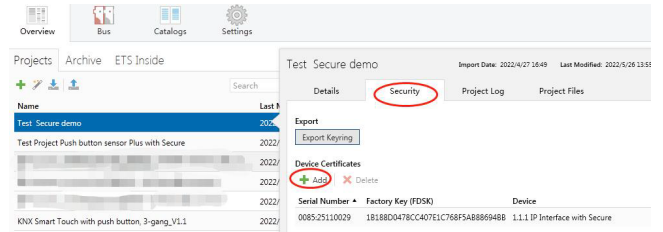

Fig. 4.3.2 Add Device Certificate in overview
- Alternatively, the certificates of all Secure devices can be entered in the ETS beforehand. This is done on the "Security" tab on the project overview page, as shown in Figure 4.3.2 below.